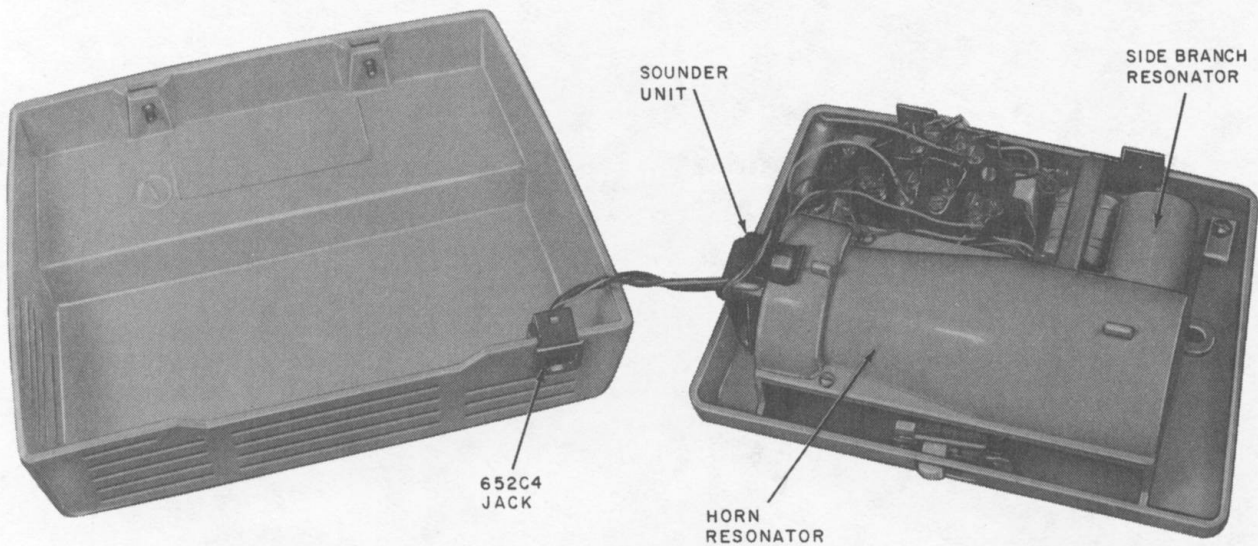

Fig. 3—S1AM Tone Ringer, Cover Removed
3.05 To remove the louvered cover from either tone ringer, release the two captive screws which fasten cover to the base (Fig. 3).